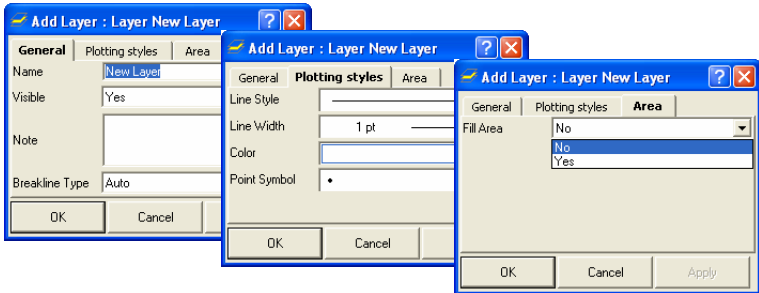

Figure 5-60. Enter and Select Layer's Attributes
2. Enter the following general information for the layer (Figure 5-60 on page 5-41):
3. Select the following plotting information for the layer (Figure 5-60):
4. Select *Yes* to fill the areas of this layer (Figure 5-60).